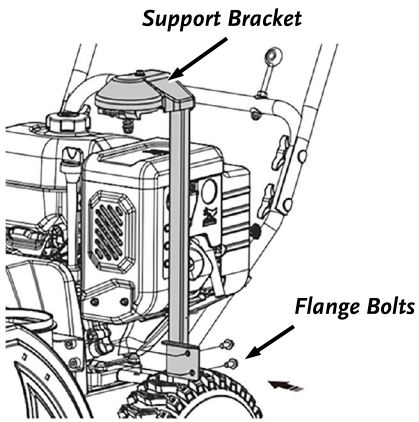

Figure 11
1. Remove the two M8x16 Flange Bolts. Install Chute Rotation Support bracket on Auger Housing using the Bolts (**Figure 11**).